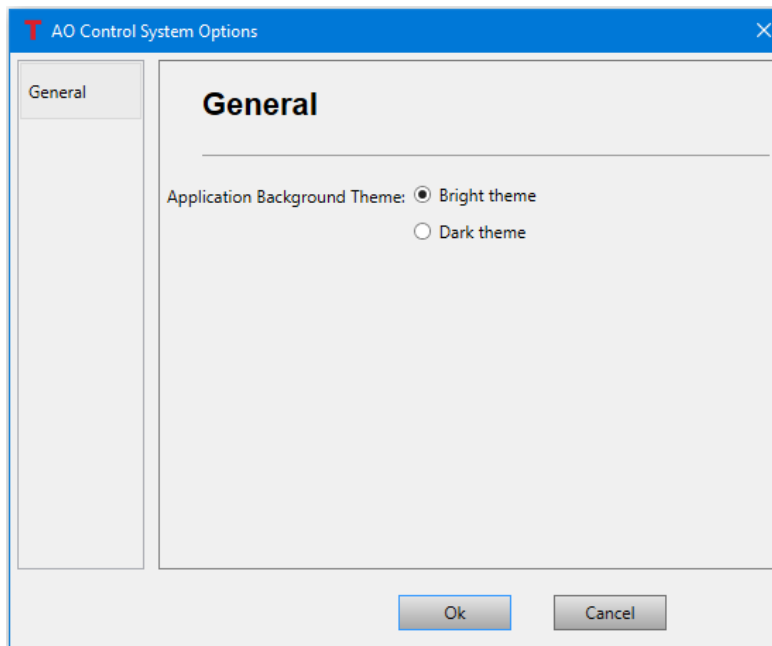
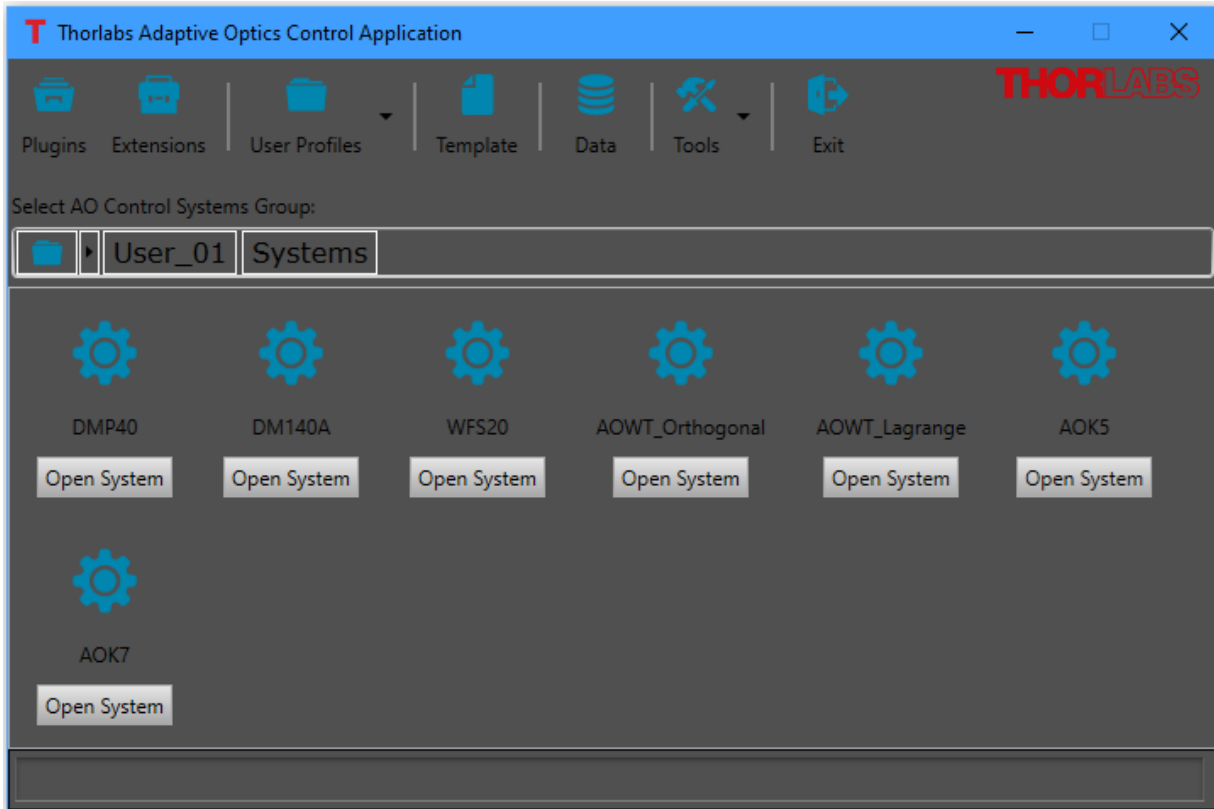
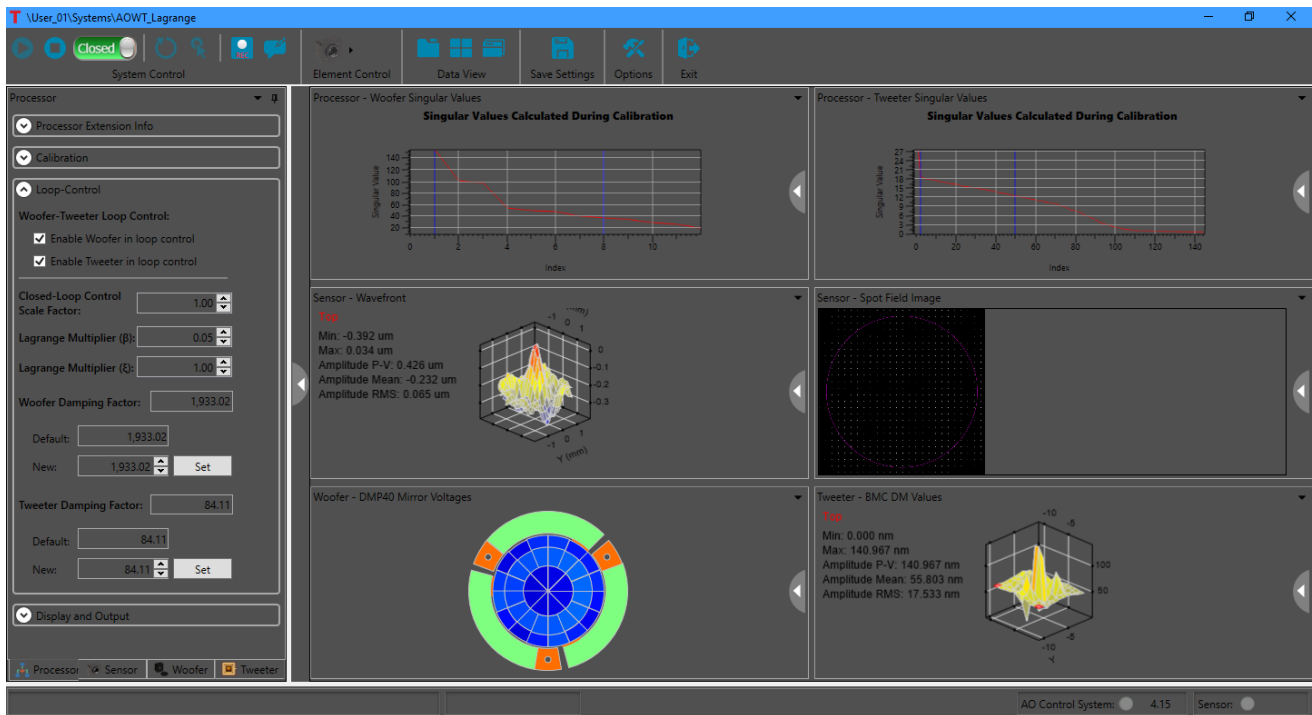

Figure 64 *The AO Control System Options Window*
Figure 65 The Main Control Application Window with the dark theme selected.
Figure 66 The Control System Window with the dark theme selected.
- **Options** () - At this time, the only general option for the user is to select the application's background theme, which may be one of two options: bright theme or dark theme. Clicking on the Options button will bring up the control system options window, shown in Figure 64. Selecting the Dark theme will result in the main application windows and all the opened child windows having a color scheme as shown in Figure 65 and Figure 66.